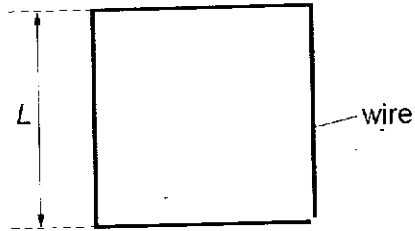

Fig. 1.1
- (a) (i) Bend the wire to form a square shape so that the length L of each side is approximately 12 cm, as shown in Fig. 1.1.